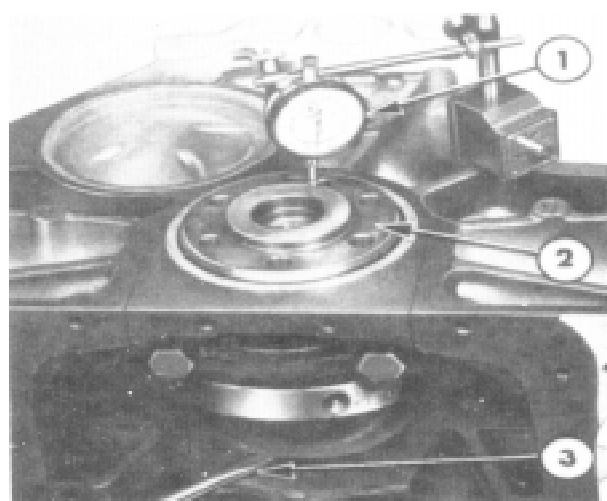

Figure 36
7. Check the crankshaft end play. Install a dial indicator so that the contact point rests against the rear flange of the crankshaft. Force the crankshaft toward the rear of the engine. Set the dial on zero, then pry the crankshaft forward and note the reading on the dial. If the end play exceeds the limits, install a new thrust bearing liner. If the end play is less than the specified limit, inspect the thrust bearing surfaces for burrs, scratches, or dirt. If the thrust surfaces are not defective or dirty, realign the thrust bearings following the above procedure reference Figure 36.